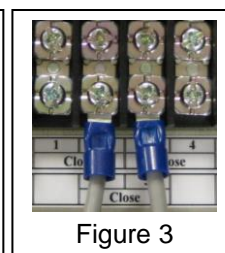

Figure 3
- 6.2.1 Main Voltage is 110 Vac. (Figure 3)